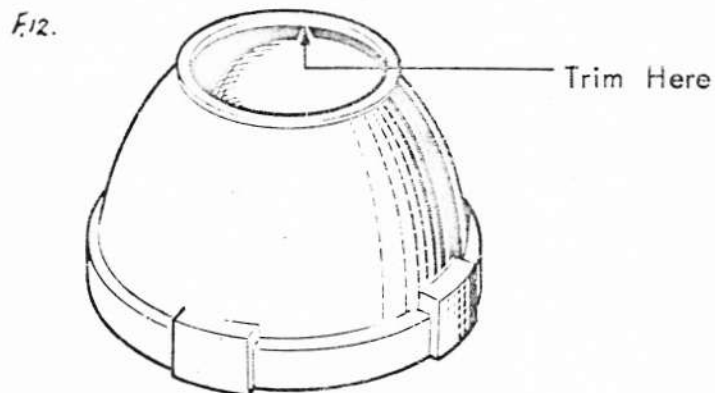

Fig. 9. GEARCHANGE LEVER CAP
4. Check that movement of the gear lever is not impeded by the lip at the top of the nylon gearchange lever cap (see Fig. 9), thus preventing full engagement of the gears. If necessary, trim this lip with a knife to obtain sufficient clearance.